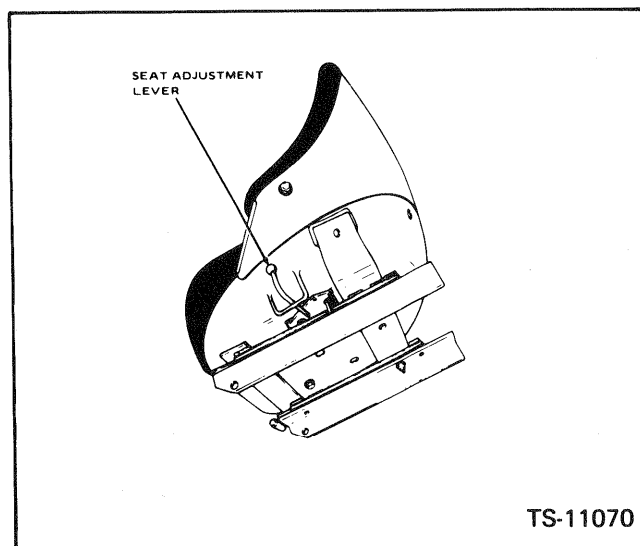

Fig. 2-2 Operators Seat Adjust Lever
29. **Seat Adjustment Levers** — The operator's seat can be shifted forward or backwards to suit the individual, by moving the lever on the left hand side of the seat forward and shifting the seat to the desired position. Fig. 2-2. An additional adjustment in the height of the seat is offered. This can be done by removing the seat bracket mounting bolts and raising or lowering the seat to the desired position. Machines equipped